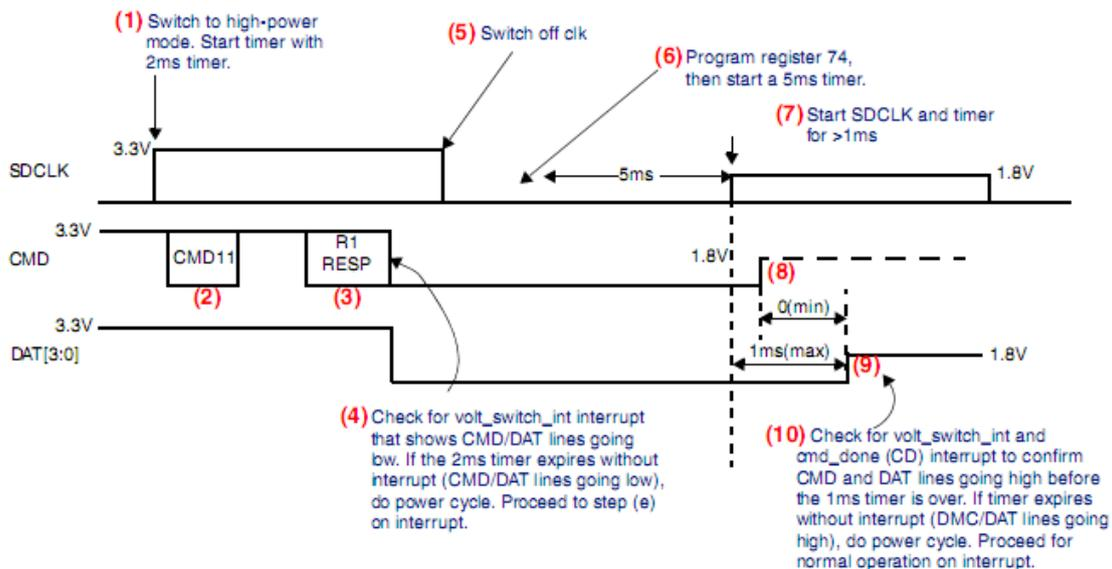

Fig. 17-17 Voltage Switch Normal Scenario
Additionally, if the card detects a voltage error at any point in between steps (5) and (7) in Figure 17-17, the card keeps driving DAT[3:0] to low until card power off.
3. The host controller generates a voltage switch interrupt once the CMD and DAT[3:0] lines go high. The application should check for an interrupt to confirm CMD and DAT lines going high before the 1 ms timer is done. If the 1 ms timer expires without interrupt (VOLT_SWITCH_INT) and cmd_done (CD), a power cycle should be performed. Program the CLKENA register to stop SDCLK of the corresponding card. Wait for the cmd_done interrupt. Proceed for normal operation on interrupt.